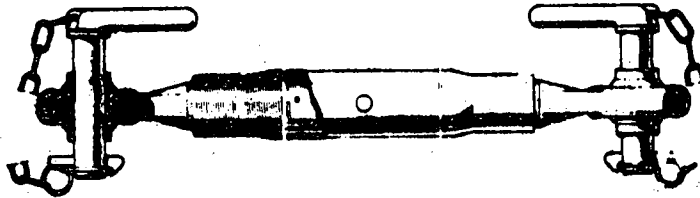

Fig. 3
*Top link.* It consists of three threaded parts. The middle section has left-hand threads on one end and right-hand threads on the other. This section allows for bringing the parts closer or extending the link and so, level the implement lengthwise (Fig. 3).